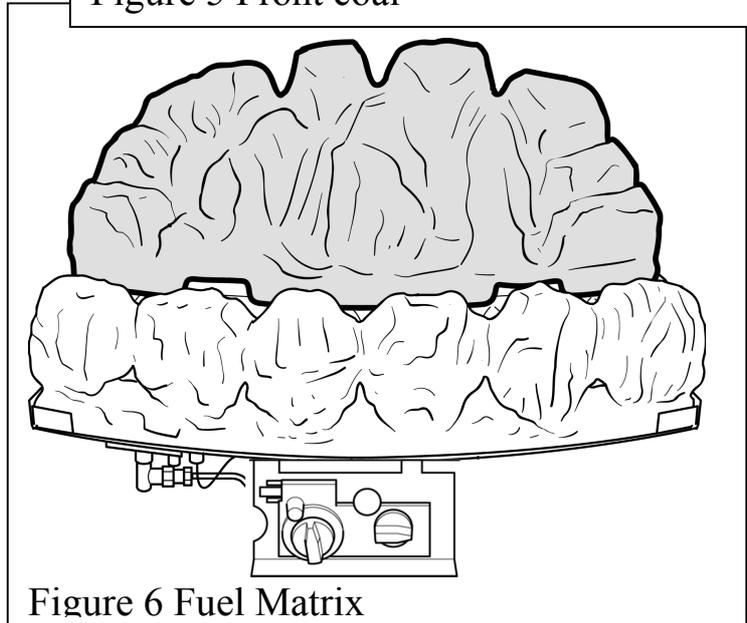

Figure 6 Fuel Matrix
2. Position the fuel matrix on top of the burner as shown in figure 6. The bottom of the matrix rear wall should drop behind the two square flanges at the top of the rear legs. Ensure that the matrix sits flatly on the top of the burner.